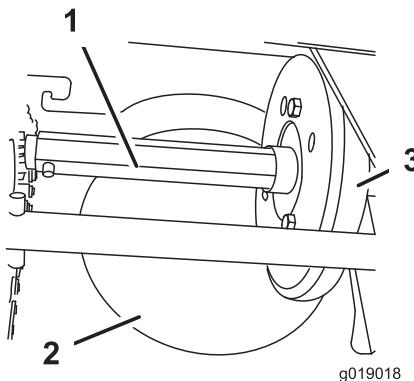

Figure 44
- Remove the dipstick and slowly pour oil into the oil-fill tube to raise the oil level to the Full mark on the dipstick (Figure 44). **Do not overfill.**
Lightly lubricate the hex shaft yearly with automotive engine oil (Figure 44).
Important: Do not get oil on the rubber wheel or the steel friction pulley because the traction drive will slip (Figure 44).